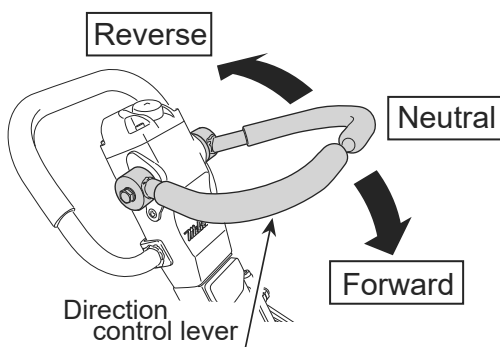

Fig.22
- 2 Use the back and forth movement direction control lever to make the machine move backward and forward. When the direction control lever is pushed forward, the machine moves forward, when pulled backward, the machine moves backward. At neutral, the machine vibrates staying at the same location. (Fig.22)